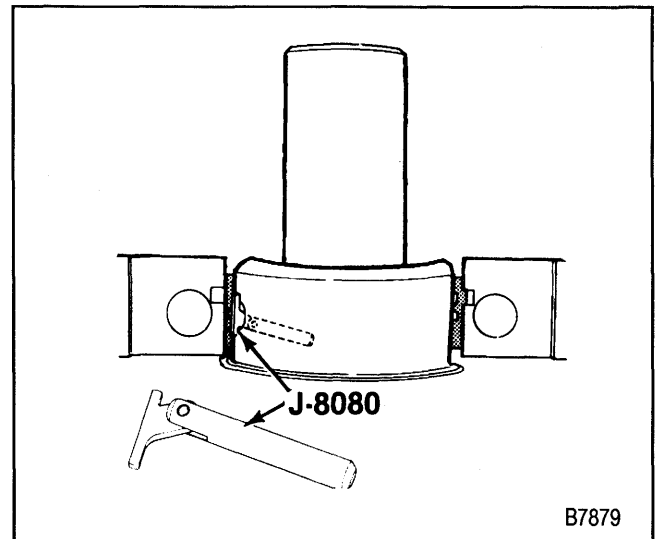

Figure 32—Removing the Main Bearings
Remove or Disconnect (Figure 32)
- A. Insert J 8080 into the crankshaft oil hole (figure 32).
Install or Connect (Figures 32 and 33)
- A. Insert tool J 8080 into a crankshaft main bearing oil hole (figure 32).